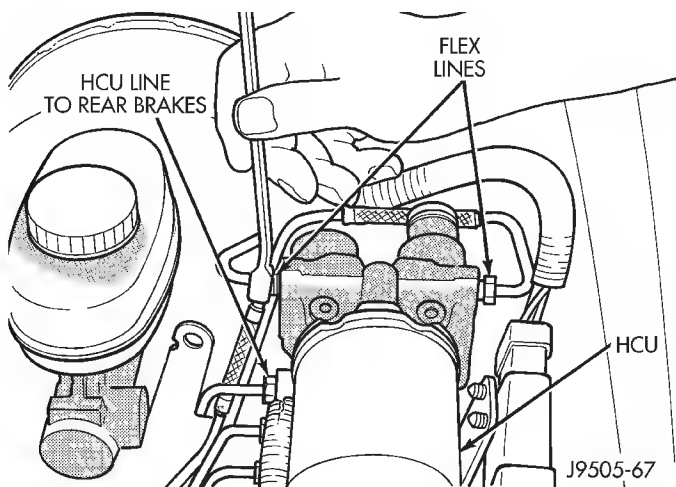
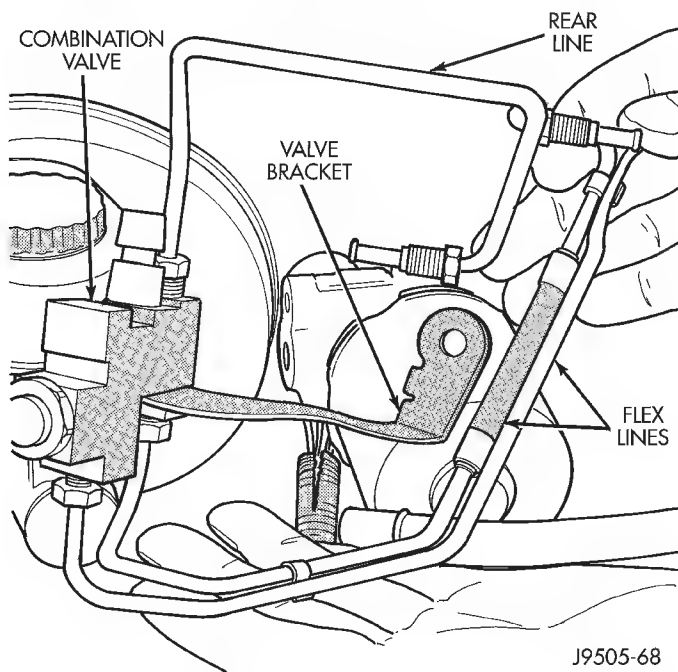

Fig. 14 Location Of HCU Flexlines And HCU Line To Rear Brakes
Fig. 15 Combination Valve And Brakeline Removal
(12) Disconnect rear brakeline at HCU (Fig. 14).
(13) Disconnect both flex brakelines at HCU (Fig. 14).
(14) Disconnect HCU line to rear brakes at HCU port (Fig. 14).
(15) Remove nut attaching combination valve bracket to brake booster stud.
(16) Remove combination valve and brakelines as assembly (Fig. 15). Work valve bracket off booster stud. Then work brakelines around cylinder and HCU and remove assembly.